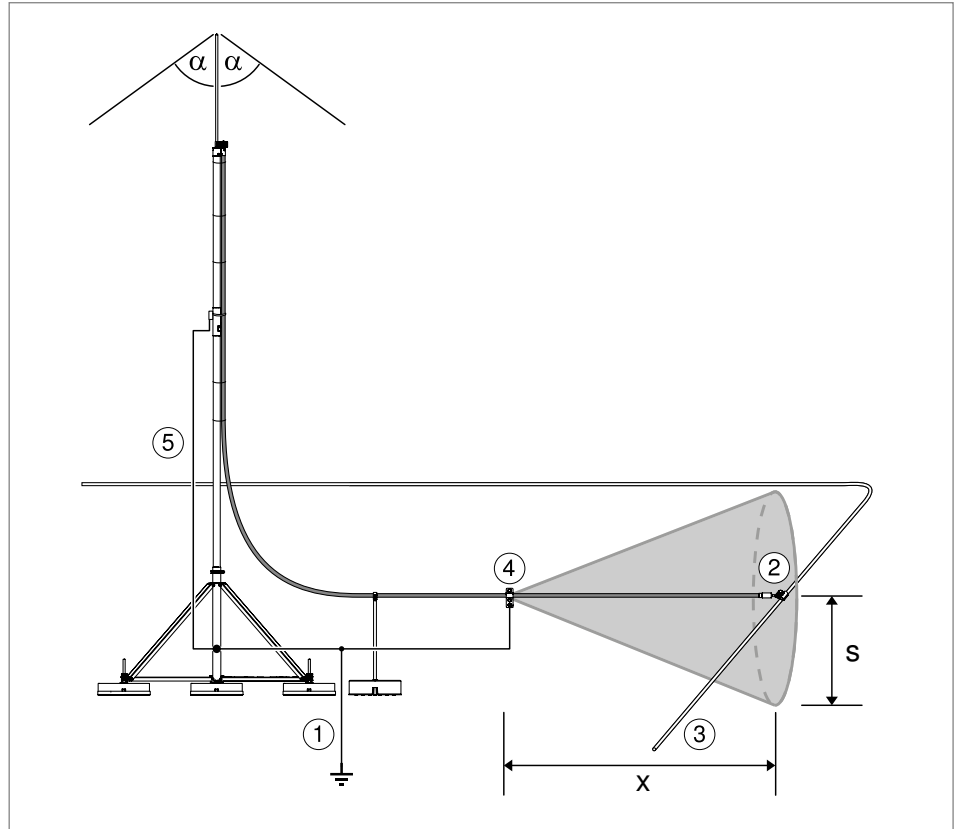

Fig. 52: Minimum distance (x) between the connection element and the equipotential bonding
*The minimum distance (x) can be derived from the calculated separation distance (see „6.2 Calculating, checking and maintaining the separation distance“ on page 26). Use the **formula** $x = s * 2$, in order to calculate the minimum distance (x) necessary (see also Fig. 52).*